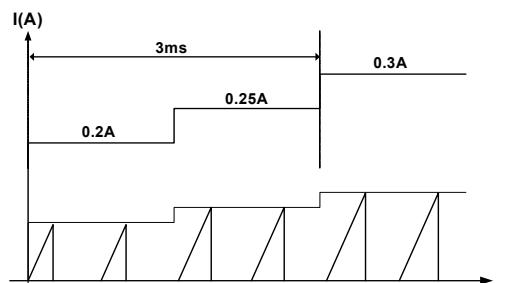

Figure 11. Internal Soft Start
5. Soft Start : FSD200B/210B has an internal soft start circuit that gradually increases current through the Sense FET as shown in Figure 11. The soft start time is 3msec in FSD200B/210B.